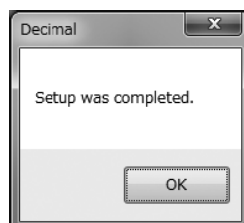

Fig.87
- ⑥ Click "OK" to change the settings to the selected values, and then click the "OK" button in the displayed message box (Fig. 87) to complete the setting process.